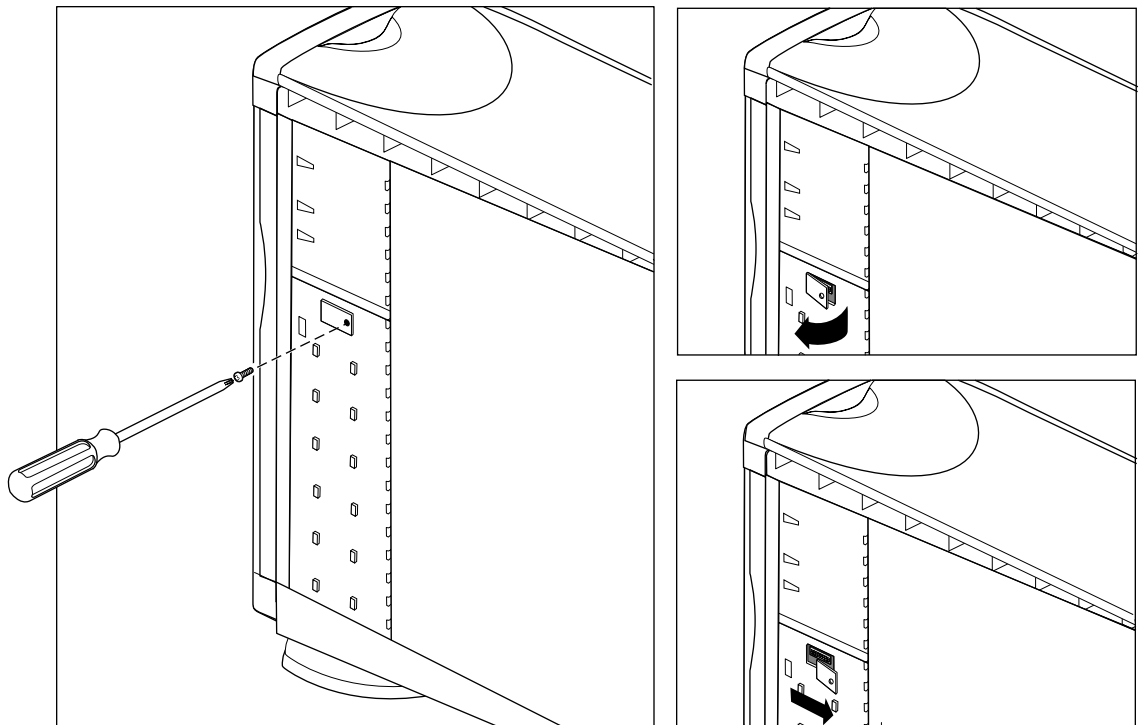

Figure 2-20 Removing the Module System Controller (MSC) Access Plate
2. Remove the module system controller (MSC) access plate, as shown in Figure 2-20